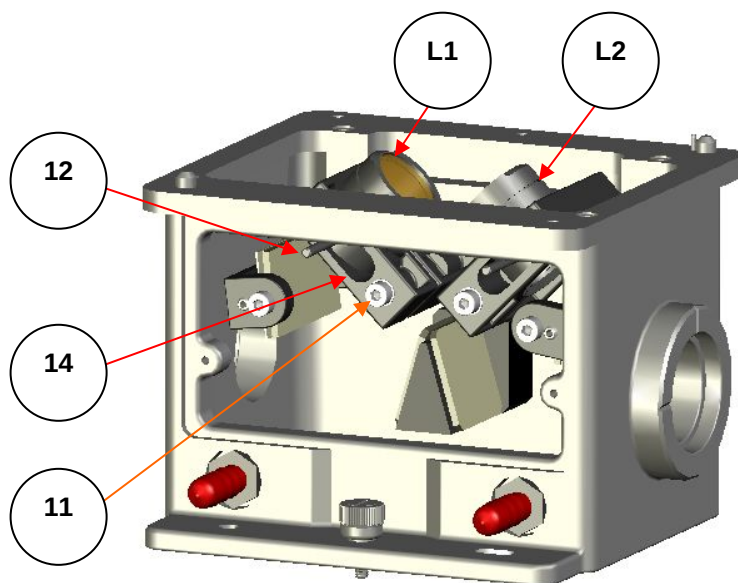

Fig 16: Changing the Lens Assemblies in a MKII Golden Gate™ ATR System
2. Any Golden Gate™ ATR Top Plate being used must be removed from the optical unit. This is achieved by loosening the two thumb screws (3) on the Top Plate and lifting it up and away from the optical unit.
3. The lens assemblies in the optical unit are moved by the tiller bars (12) (see Fig 16). Remove the tiller bars from the lens barrels by unscrewing anticlockwise.
4. Loosen the locking screw (11) making the lens barrel free to move in the outer casing (14).